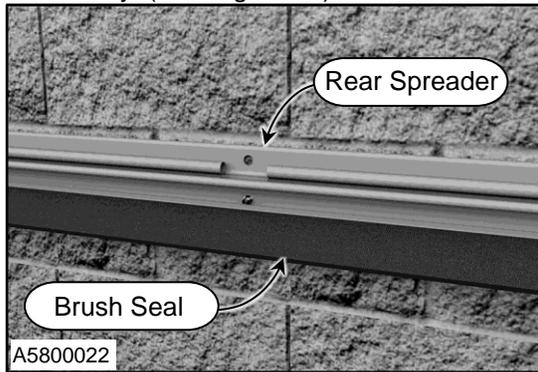

Figure 22
1. Inspect brush seal for wear and tear. Replace as necessary. (See Figure 22)